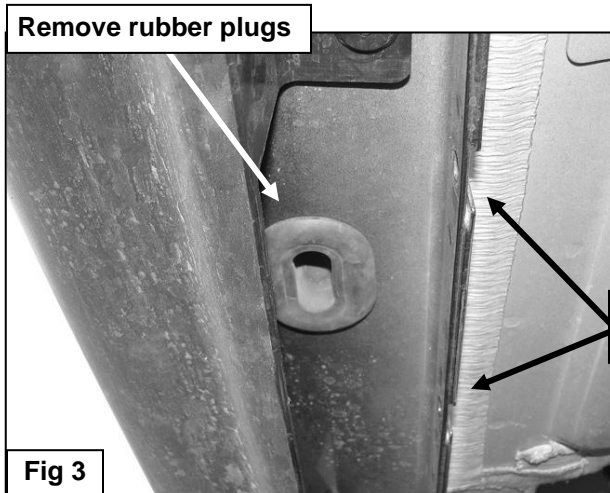
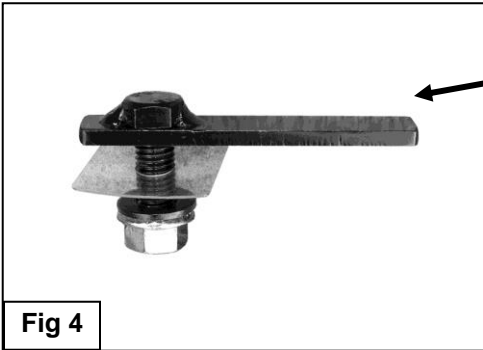
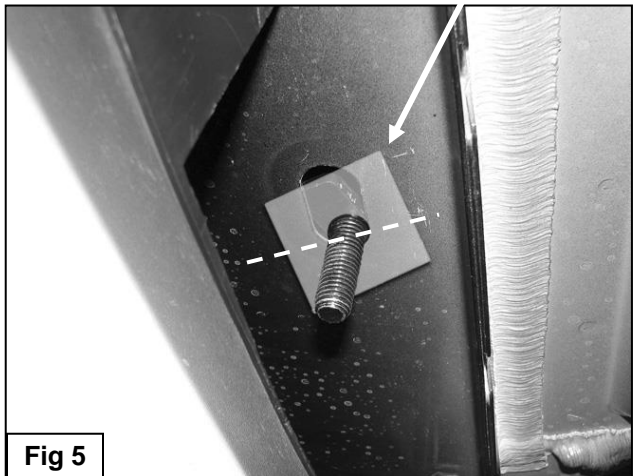

Fig 3
Fig 4
Fig 5
- Starting at the driver side, locate the (3) pairs of factory holes in the pinch weld, **(Figure 1 & 2)**. Move toward the front pair. Remove the rubber plug filling the oval hole in the bottom of the rocker panel in front of the two holes, **(Figure 3)**. Select (1) 12mm Bolt Plate and (1) 12mm Plastic Retainer. Partially thread the Retainer onto the Bolt Plate. Insert the Bolt Plate into the hole and rotate it 90-degrees to go across the slot, **(Figure 4)**. Thread the Retainer all the way down the Bolt Plate and tight against the body panel, **(Figure 5)**. **NOTE:** The Plastic Retainer is designed to prevent the Bolt Plate from pushing up into the body panel and to aid in Bracket installation.